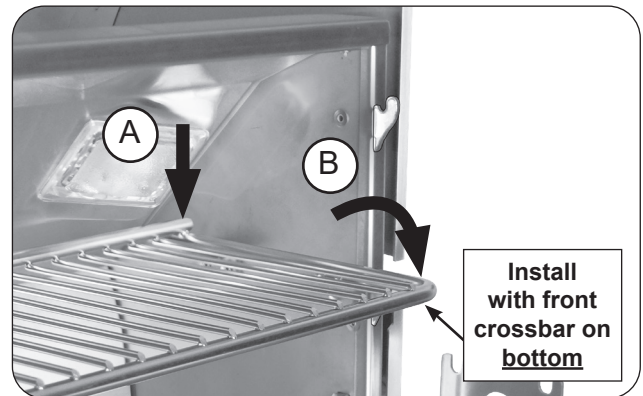

Fig. 33-2 Place warming rack for use
2. With the warming rack oriented as shown, carefully rest the rear of the rack onto the rear support plates (see Fig. 33-2, A), then lower the warming rack arms onto the lower hooks for use (see Fig. 33-2, B).